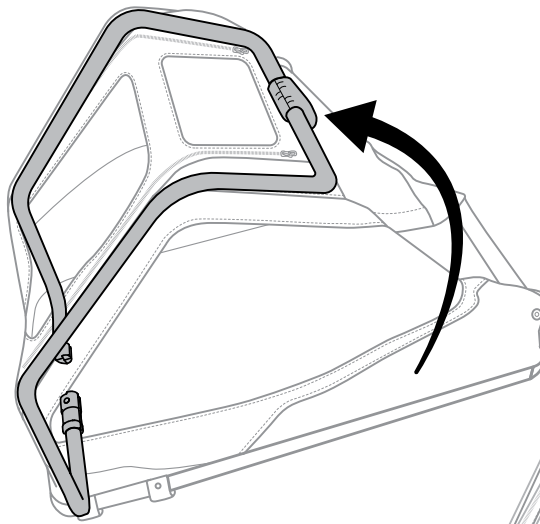

Figure 1
1. Rotate front frame tube towards the front of the trailer (Figure 1).